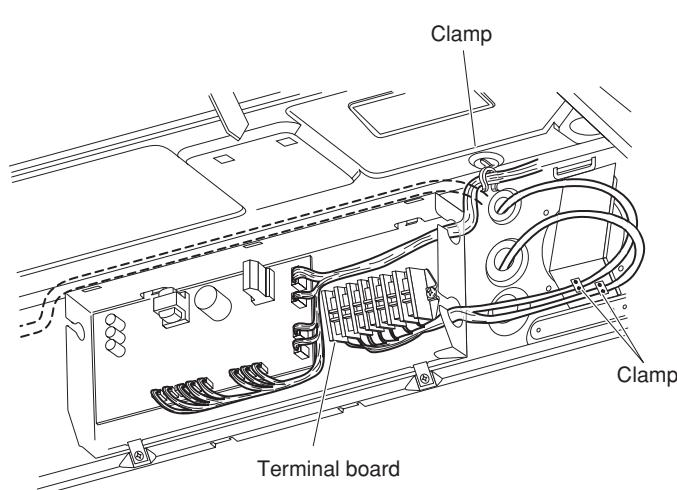
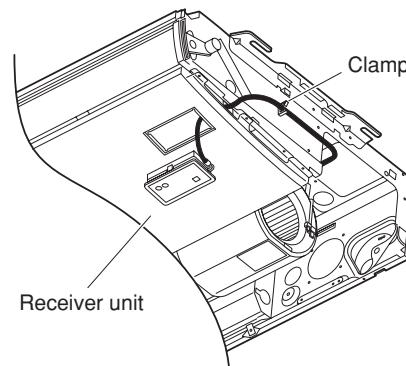

Fig. 11-10
Fig. 11-9
- (4) Fasten the receiver lead wire to the fastener that holds the louver motor wiring. (Fig. 11-9)
- (5) Reattach the side panel.
- (6) Route the lead wire from the receiver unit along the louver motor wiring and other wiring and fasten them with a fastener. (Fig. 11-10)